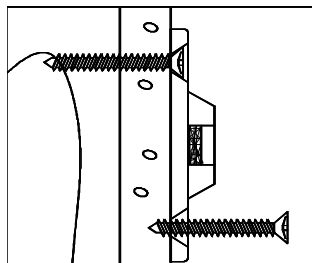

Figure 2
3) MOUNTING THE WALL-SIDE BRACKET: Position the wall-side bracket along the selected stud mark so that it will be adjacent the furniture-side bracket when the furniture item is moved to its final position. The wall-side bracket should be about ONE inch lower than the furniture-side bracket (See Figure 3). Use the TWO Long screws to secure the wall-side bracket to the wall. Remember to position the wall-side bracket vertically so that both screws will engage the selected wall stud (See Figure 2).